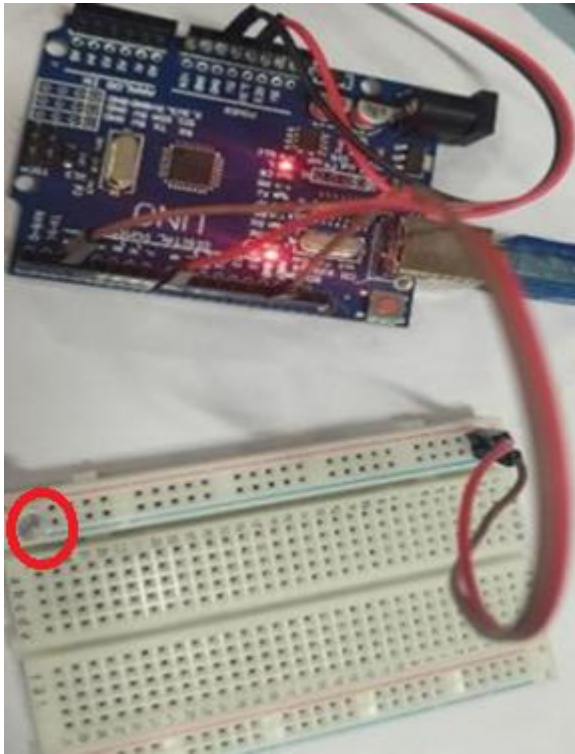

Fig.3: No Motion — LED OFF
- When No Motion — LED OFF (Shown in red circle in Fig.3)